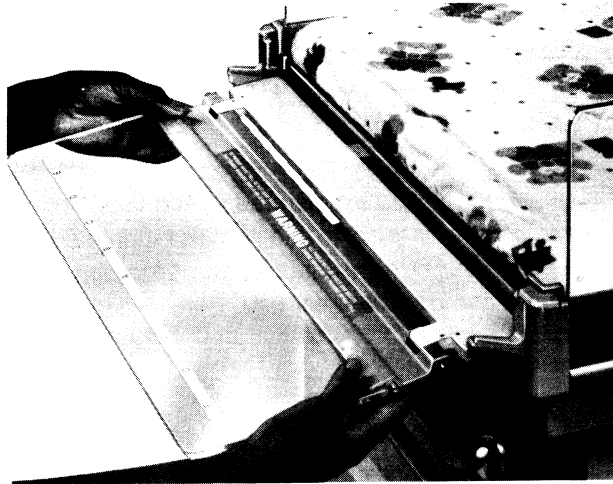
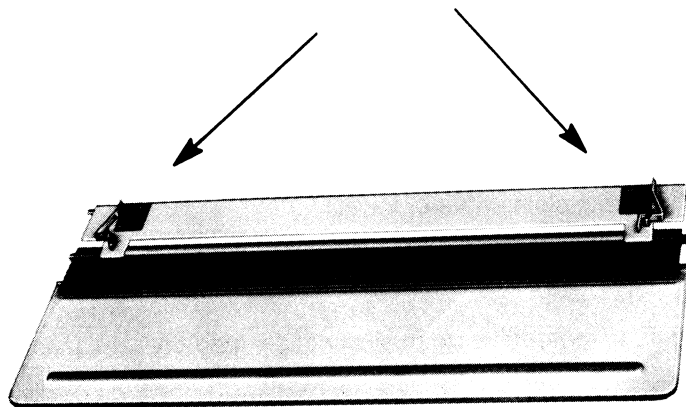

FIGURE 4.3 REMOVING BASSINET FRONT PANEL
FIGURE 4.4 BASSINET FRONT PANEL RELEASE TABS
3. Remove the Bassinet Front Panel (Figure 4.3) by raising it and then swiveling it down. On the bottom of the panel press on the release tabs (Figure 4.4) and pull the panel straight out.